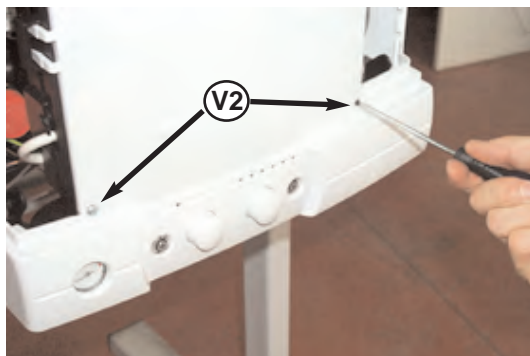

Fig. 96
6. Remove the two screws "V2" and pull toward you unlocking the two clamps "V3" (see Fig. 96 & 97);